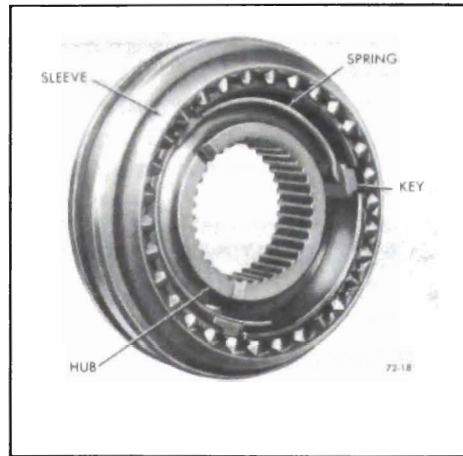

Figure 72-18 - Synchronizer Assembly
b. Remove sliding sleeve from synchronizer hub. Remove keys and springs from the hub. See Figure 72-18.
c. Place the three (3) keys and two springs in position (one on each side of hub) so all three (3) keys are engaged by both springs. See Figure 72-18.